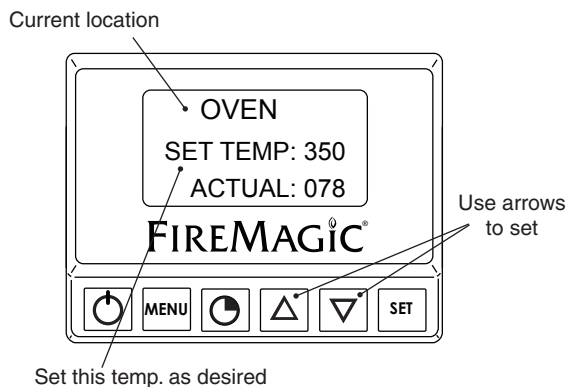

Fig. 29-1 Area temp. screen (oven shown)
2. The selected location's temperature screen will be displayed. Use the arrows to set the desired temp. The actual temp. will also be shown (see Fig. 29-1).